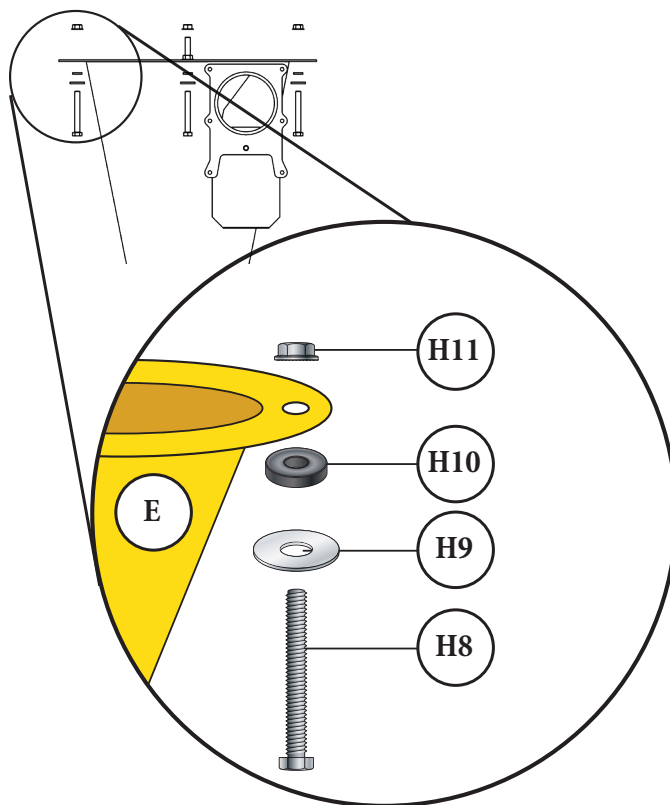

FIG. 9
Install the four Hex Head Bolts (H8), Flat Washers (H9), Rubber Washers (H10), and Whiz-Lock Nuts (H11) to the holes in the Cyclone's (E) upper flange [FIG. 9].